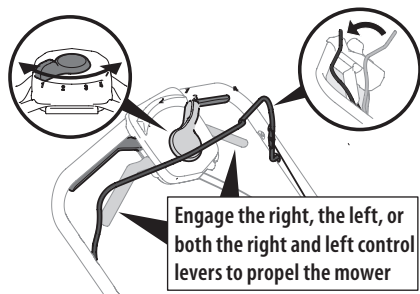

Figure 30
1. Once the engine is running and while continuing to hold the blade control down, squeeze either (or both) drive controls against the upper handle to propel mower (Figure 30).